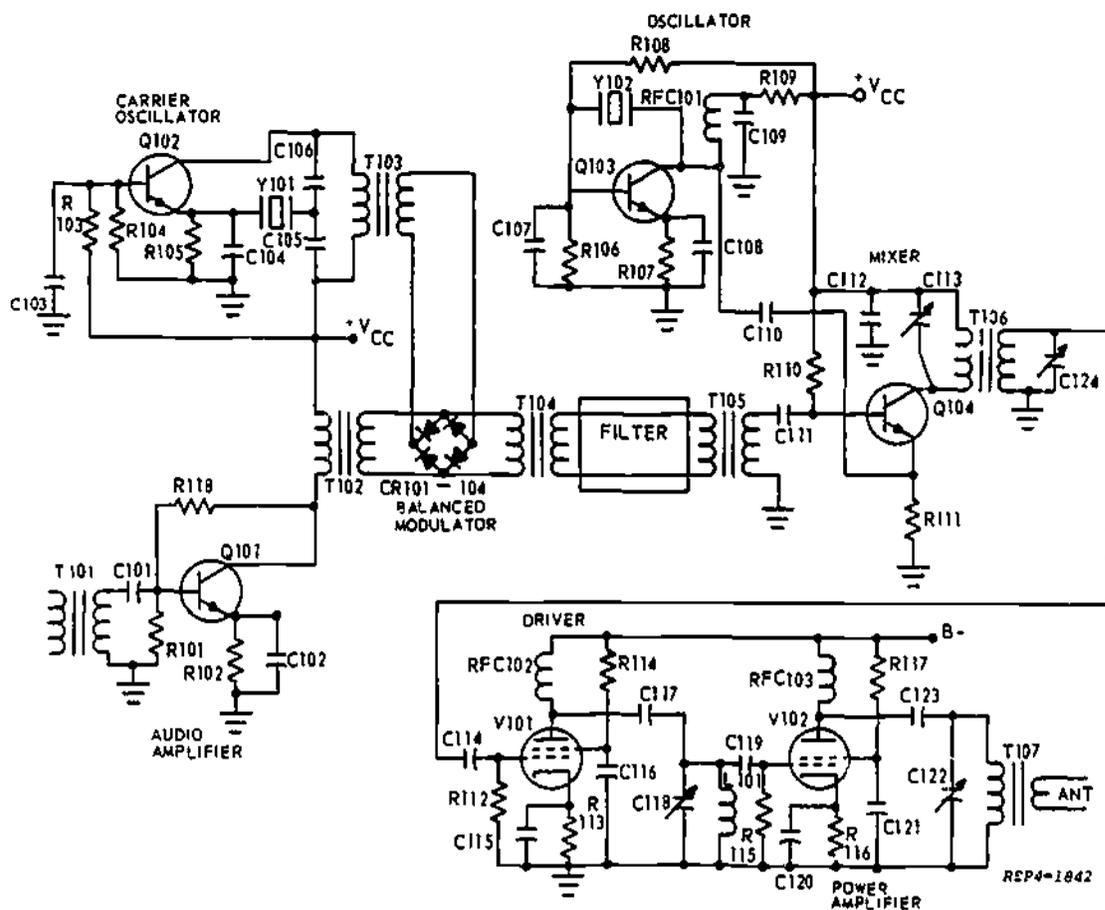

Figure 3. SSB Transmitter Schematic
6. Using figure 3, the schematic diagram of a single sideband transmitter, trace the RF and intelligence signals from origin to output. List each stage in turn, name the type of input and output signals, and the next stage.
7. Using figure 3, the schematic diagram of a single sideband transmitter, and a list of stages, trace the direct current paths from ground through each stage. Place the component number in the blanks in turn.